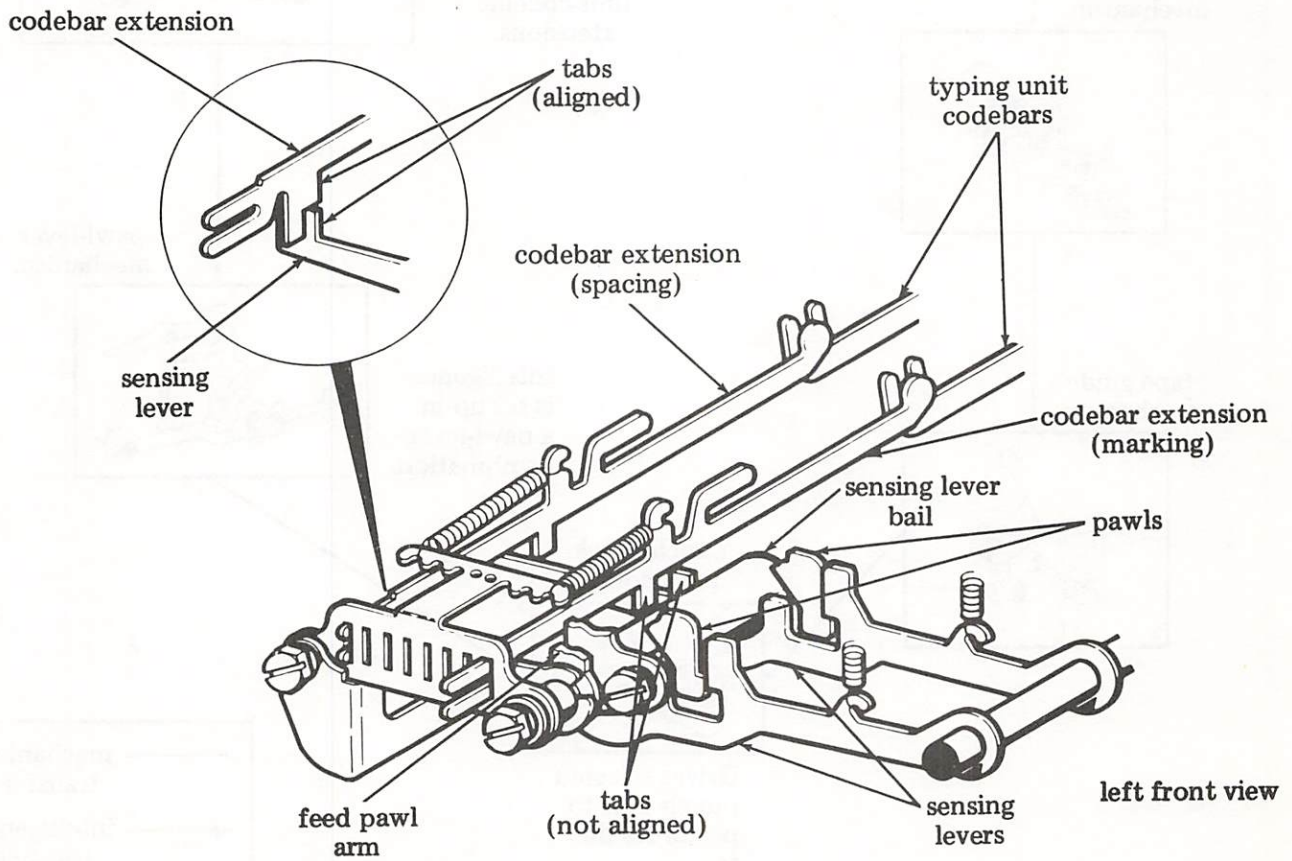

Figure 4 - Intelligence Transfer Mechanism
3.03 There is a codebar extension for the number 1, 2, 3, 4, 5, 6, 7, and 8 codebars in the typing unit (Figure 4). Motion is imparted to the codebar extensions by the codebars through the typing unit reset bail. A bracket and a plate mounted to the tape punch base provide support and guide for the codebar extensions.